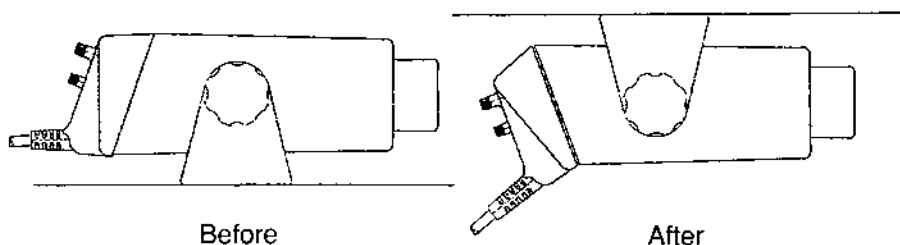

Figure 2-2. Front Panel Reversal procedure.
7. Mount the trunnion bracket on the top of the radio. Figure 2-2 shows the "before" and "after" results.